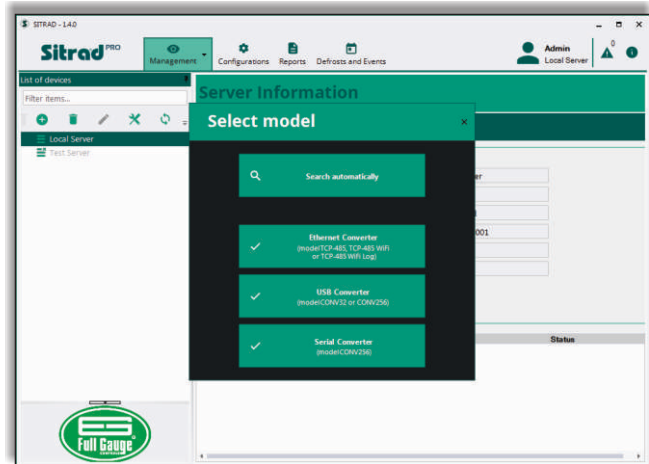

Figure 26
Step 2: In the **Select model** window (Figure 26), select to **Search automatically** and the software will search on the network for converters. If the converter is not available at the moment, you can add it manually by clicking on **Ethernet converter**.